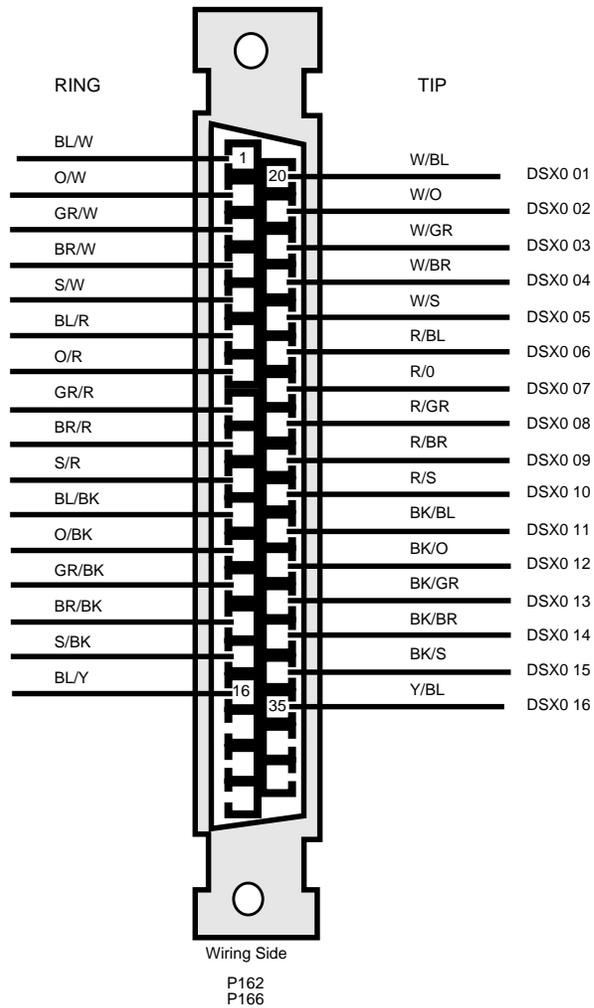

Figure 3-27. DS1 OUT (1 - 16) Connections
- Step 3:* Terminate the transmit pairs (DS1 OUT) at the DSX and label the leads in accordance with Figures 3-27 and 3-28.